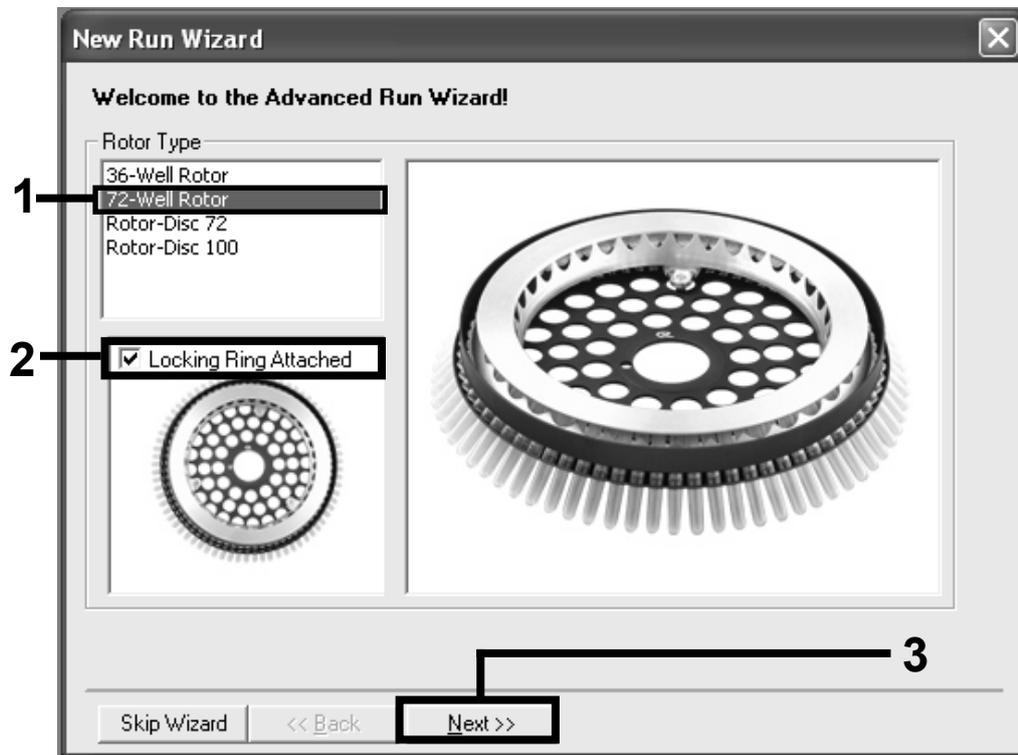

Figure 1. The "New Run Wizard" dialog box.
Setting the general assay parameters	Figures 1–3
8. Select 72-Well Rotor as the rotor type. Confirm that the locking ring is attached, and check the "Locking Ring Attached" box. Click "Next" (Figure 1).